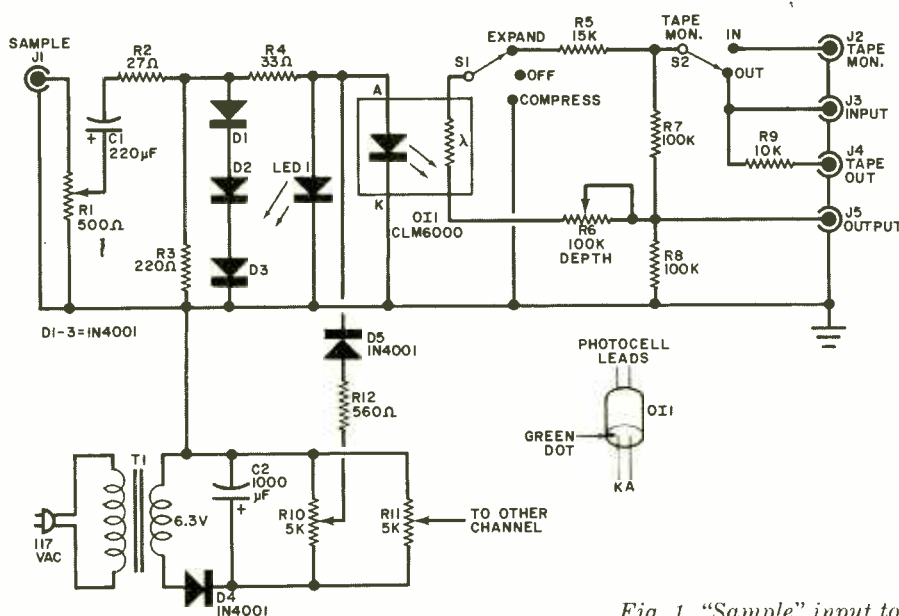

Fig. 1. "Sample" input to compander is same as input to the speaker.
**Circuit Operation.** The heart of the compander circuit (Fig. 1) is an optoisolator (O1), which contains a light emitting diode and a low-distortion photocell in a light-tight plastic enclosure. This unit has much faster response time than devices using an incandescent lamp (often used in compressors). It also introduces less distortion and has the advantage of providing a slight "slow release" action to enhance the expansion effect.